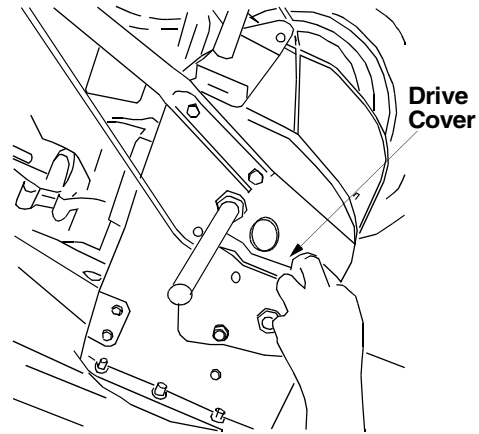

Figure 21
- Remove the four screws securing the left drive cover to the frame. Remove the drive cover from the side of the frame. See Figure 21.